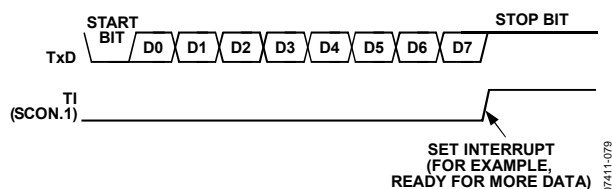

Figure 100. 8-Bit Variable Baud Rate
Transmission is initiated by a write to the serial port buffer SFR (SBUF, Address 0x99). Next, a stop bit (1) is loaded into the ninth bit position of the internal serial port shift register. The data is output bit by bit until the stop bit appears on the TxD pin and the transmit interrupt flag, TI (Address 0x98[1]), is automatically set, as shown in Figure 100.